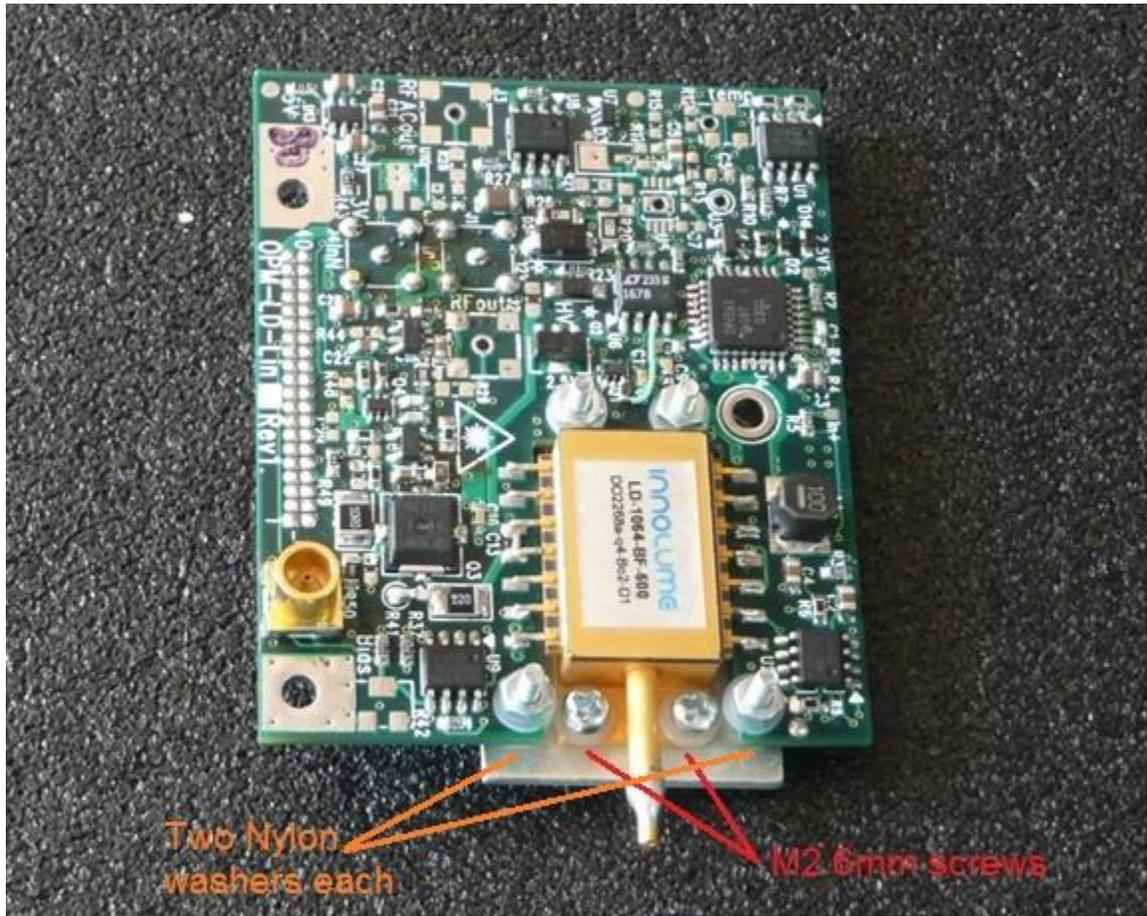

Figure 5
13. Hold the PCB top-side up (as in figure 5). Place two nylon washers on the screw holes in the front of the LD.
14. Use two 6mm screws and tighten the LD to Heat Sink. Refer to figure 5.